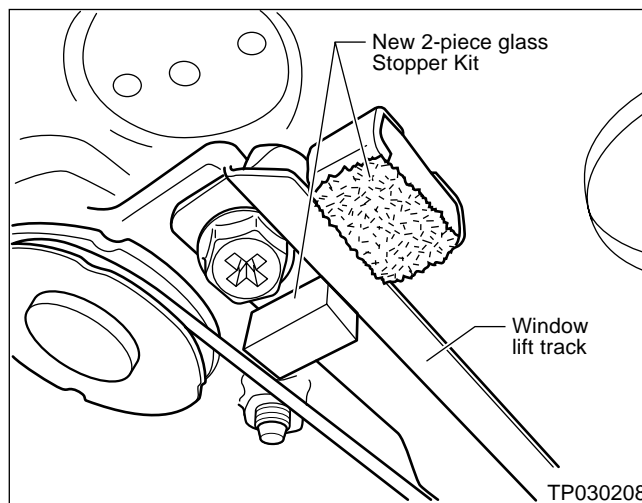

Figure 5
3. Install the 2 new pieces from the Stopper Kit (see Figure 5). Refer to the Parts Information section of this bulletin.